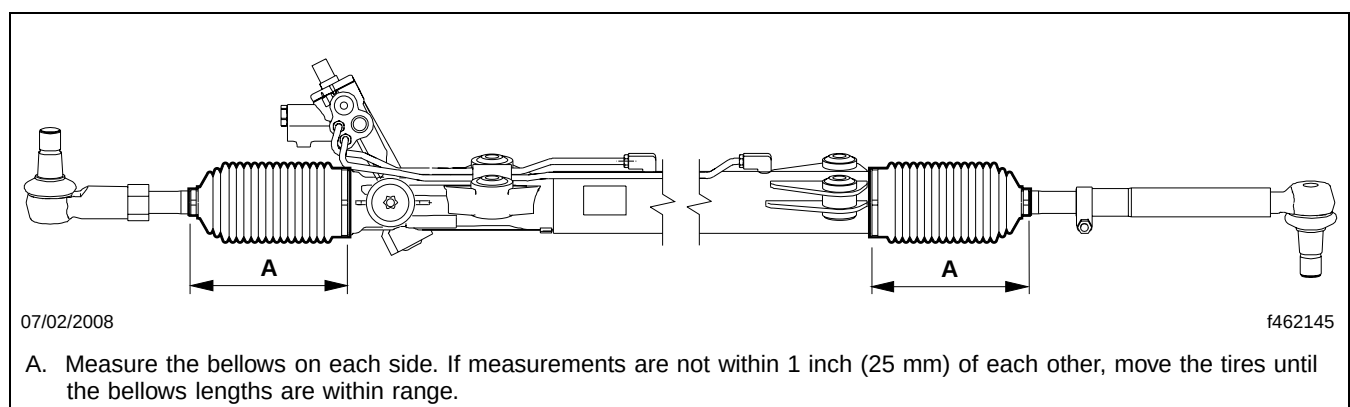

Fig. 11, Measuring the Tie Rod Bellows
- 40.1 Measure the length of the bellows from clamp to clamp on each side of the gear. See **Fig. 11**. If measurements are not within 1 inch (25 mm) of each other, move the tires until the bellows lengths are within range.